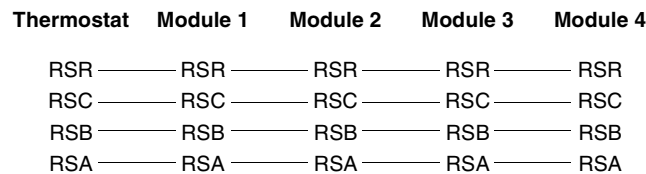

FIG. 29 Daisy-chaining support modules
2. Wire the first sensor using the single support module instructions. Daisy chain the remaining support modules as shown below (FIG. 29).